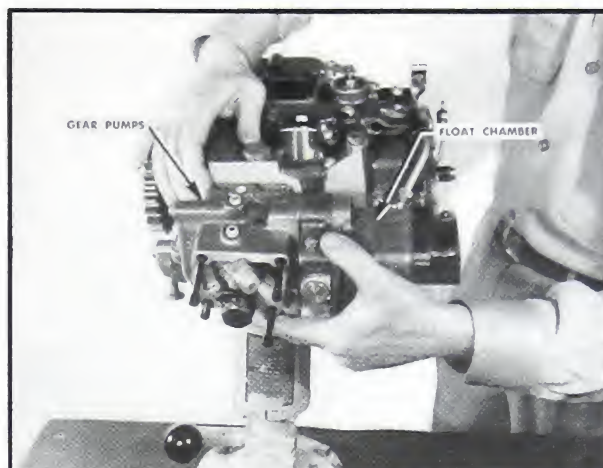

Fig. 5-186. Removing gear pump assembly
2. Unscrew the four capscrews from the base of the gear pumps and lift the gear pumps and float chamber from the fuel plug. Fig. 5-186.